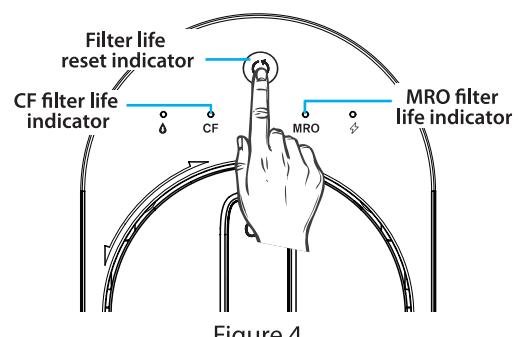

Figure 4
(1) Press the filter life reset indicator for 5 seconds (Figure 4).